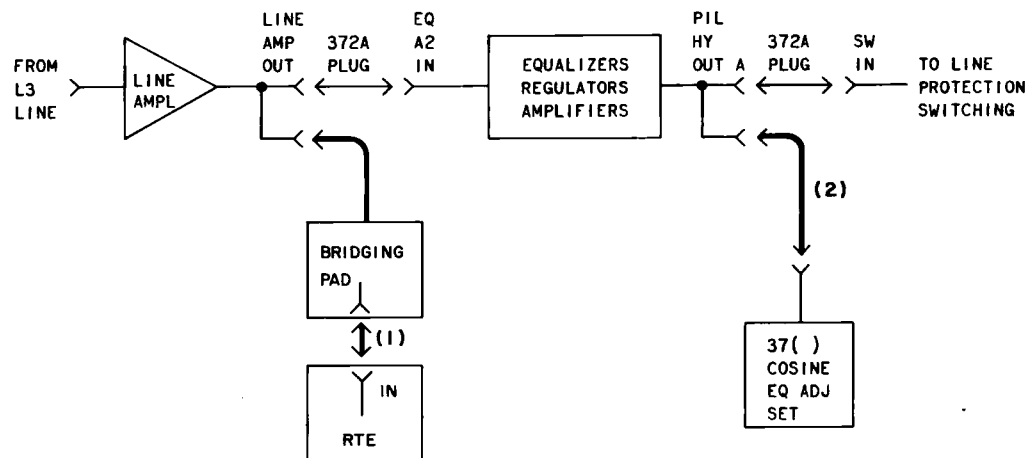

Fig. 1—Test Connections for Gain Equalization at Receiving Terminal
14	Connect the RTE to the LINE AMP OUT jack [patch (1), Fig. 1].
- 19 Connect the 37() cosine equalizer adjustment set to the PIL HY OUT A multiple jack [patch (2), Fig. 1].